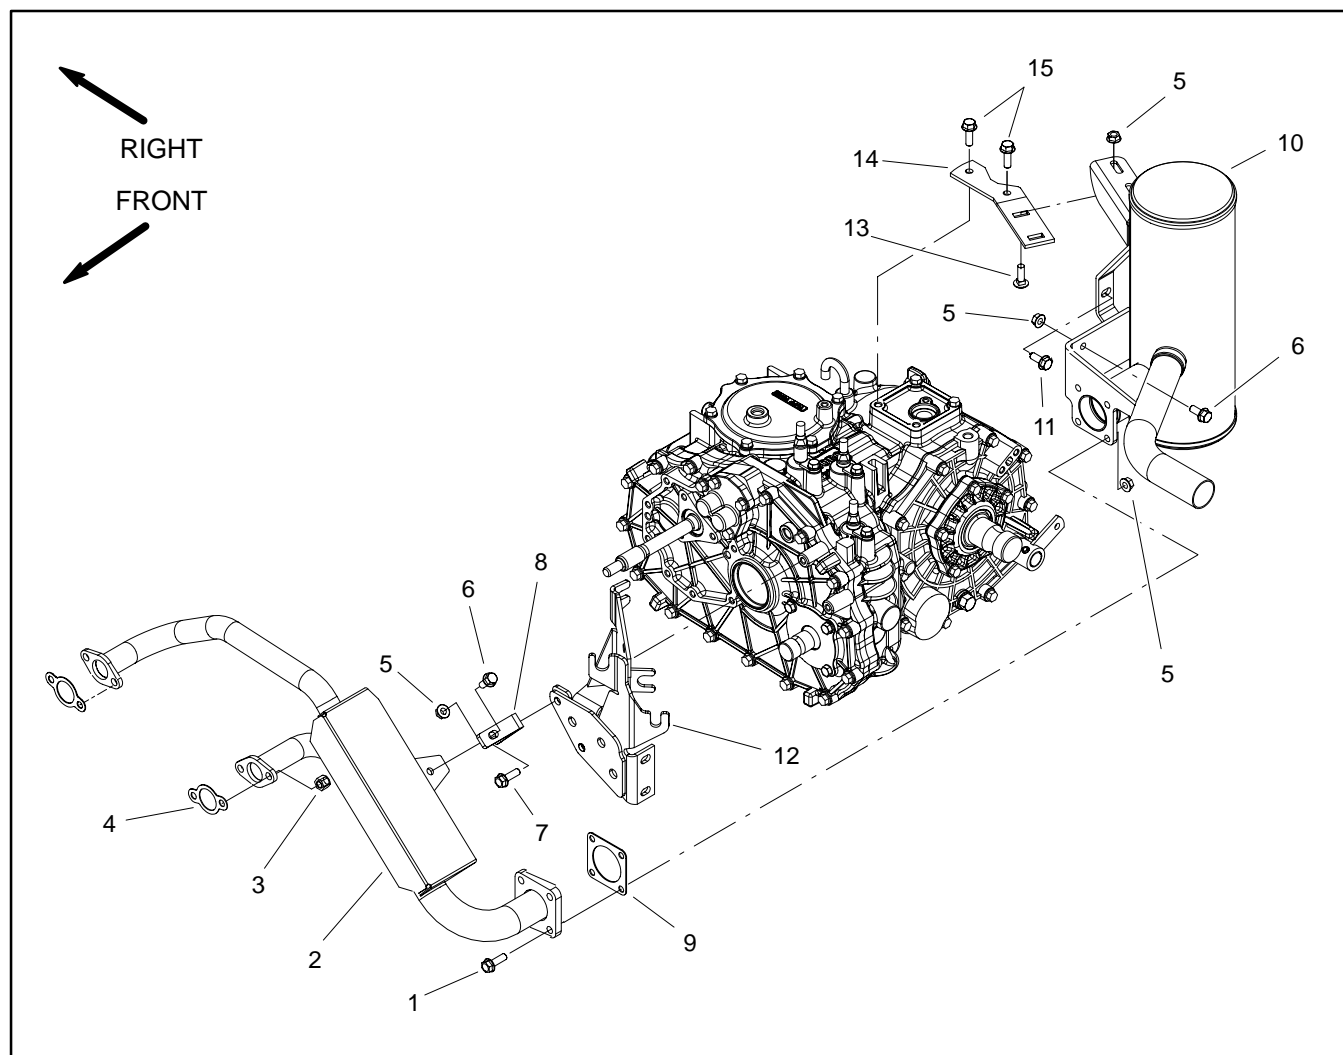

Figure 4
Removal (Fig. 4)
3. Remove exhaust system components as needed using Figure 4 as a guide.
Installation (Fig. 4)
2. Using Figure 4 as a guide, fit all exhaust components to vehicle before tightening any fasteners. When securing exhaust, tighten fasteners in the following order:
- A. Hex nuts (item 3) that secure manifold to engine.
- B. Flange head screw (item 11) that secures muffler to transaxle.
- C. Flange head screws (item 1) and flange nuts (item 5) that secure muffler to manifold.
- D. Flange head screws (item 6) and flange nuts (item 5) that secure muffler to shift cable mount bracket.
- E. Carriage bolts (item 13) and flange nuts (item 5) that secure muffler to mount plate.
- F. Flange head screw (item 6) and flange nut (item 5) that secures exhaust manifold to bracket (item 8).